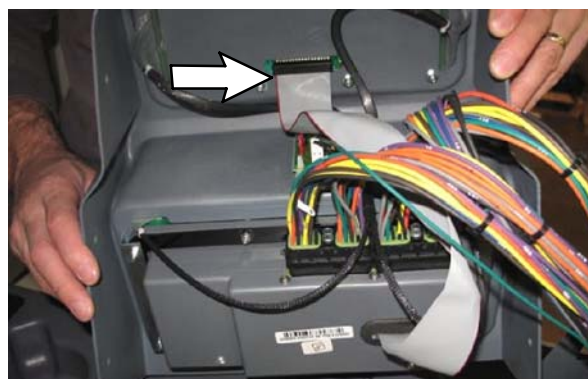

FIG. 1
2. Disconnect the instrument panel ribbon cable from the touch panel. Refer to Fig. 1.